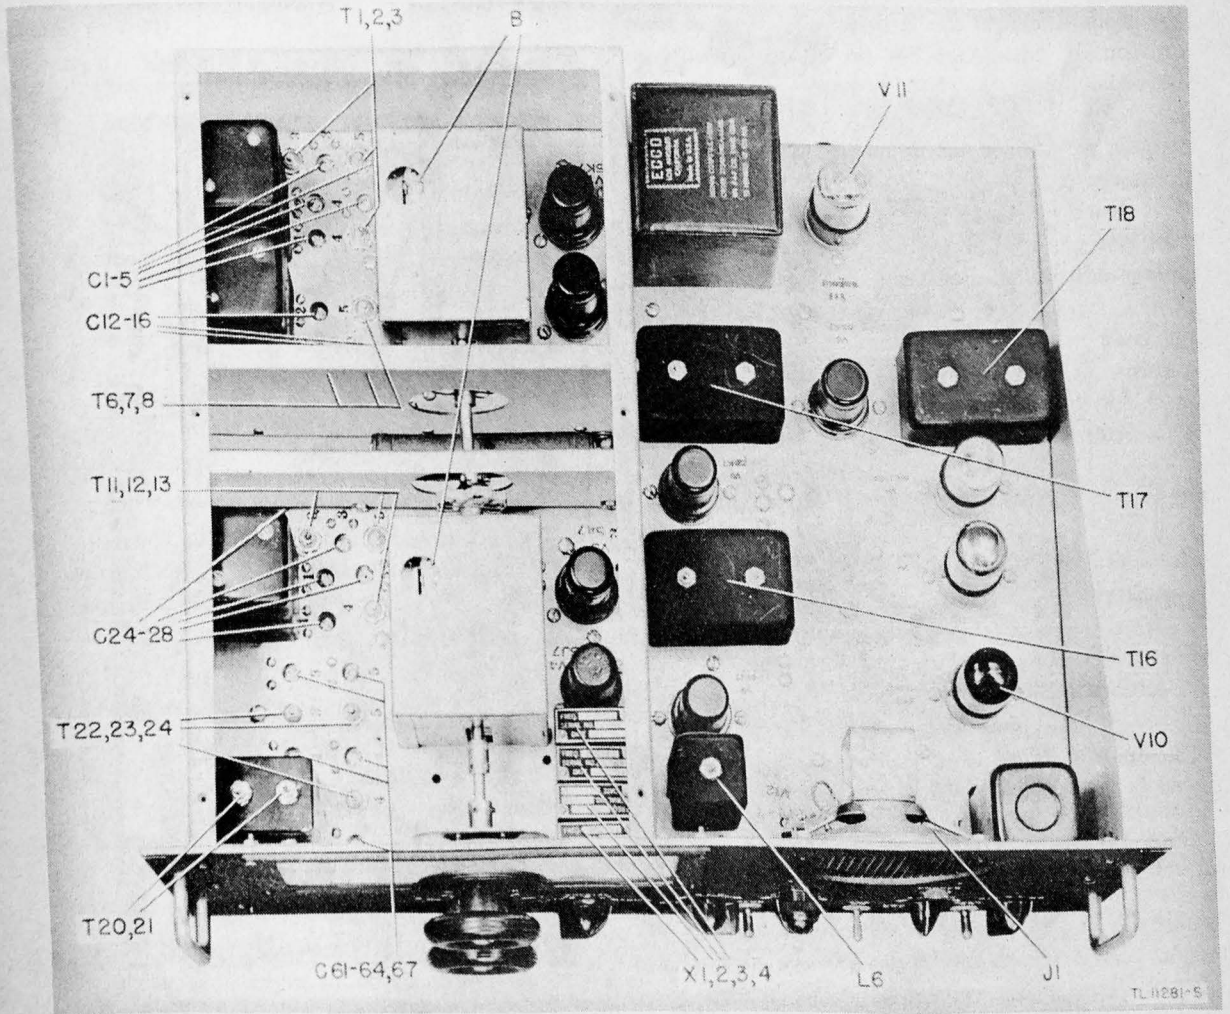
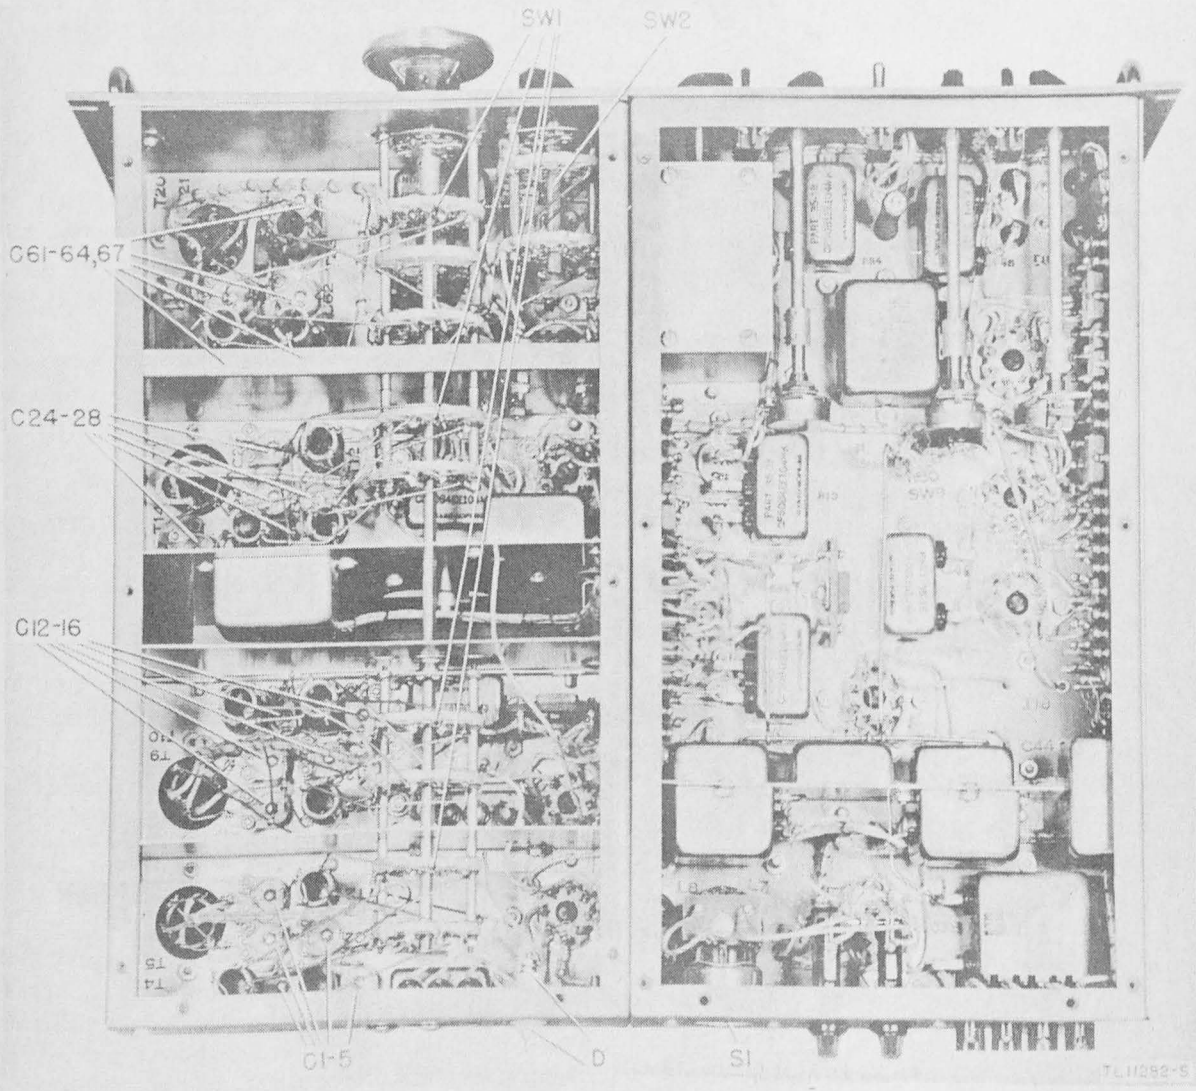

Figure 23. Radio Receiver R-96/SR, top view, showing masking points.
Figure 24. Radio Receiver R-96/SR, bottom view, showing masking points.
(4) Remove the shield cover from the r-f and mixer-oscillator sections by taking out six screws as shown in figure 23.
(5) Remove the two shield covers from the bottom of the chassis by taking out the 16 screws as shown in figure 24.
(6) Remove the speaker from the cabinet by unsoldering the two speaker leads and taking out the four bolts that hold the speaker to the cabinet.
(7) Remove the four crystals X1, X2, X3, and X4 (fig. 23) from their sockets.
(8) Remove Tube JAN-25Z6GT(V11) (fig. 23) and Tube JAN-25L6GT(V10) (fig. 23) from their sockets.
(a) Cover the tuning capacitors B with paper and masking tape (fig. 23).
(b) Mask the adjusting screws of antenna transformers T1, T2, and T3 (fig. 23), interstate transformers T6, T7, and T8 (fig. 23), mixer transformers T11, T12, and T13 (fig. 23), and oscillator transformers T20, T21, T22, T23, and T24 (fig. 23).
(c) Cover holes above adjusting screws for trimmer capacitors C1 to C5, C12 to C16, C24 to C28, C61 to C64, and C67 (fig. 23) in r-f and mixer-oscillator sections.
(d) Mask the adjusting screws on the three i-f transformer shield cans T16, T17, and T18 (fig. 23) and BFO shield can L6 (fig. 23).
(f) Mask sockets from which the four crystals X1, X2, X3, and X4 (fig. 23) have been removed.
(g) Mask contacts and sleeve of phone jack J1 (fig. 23).
(a) Stuff tissue paper between the sections and completely cover band changing switch SW1 (fig. 24) with masking tape.
(b) Completely mask crystal-manual tuning switch SW2 (fig. 24).
(c) Mask the 20 trimmer capacitors C1 to C5, C12 to C16, C24 to C28, C61 to C64, and C67 (fig. 24) in r-f and mixer-oscillator sections.
(d) Mask antenna feed-through insulator D (fig. 24).
(e) Mask power input receptacle S1 (fig. 24).